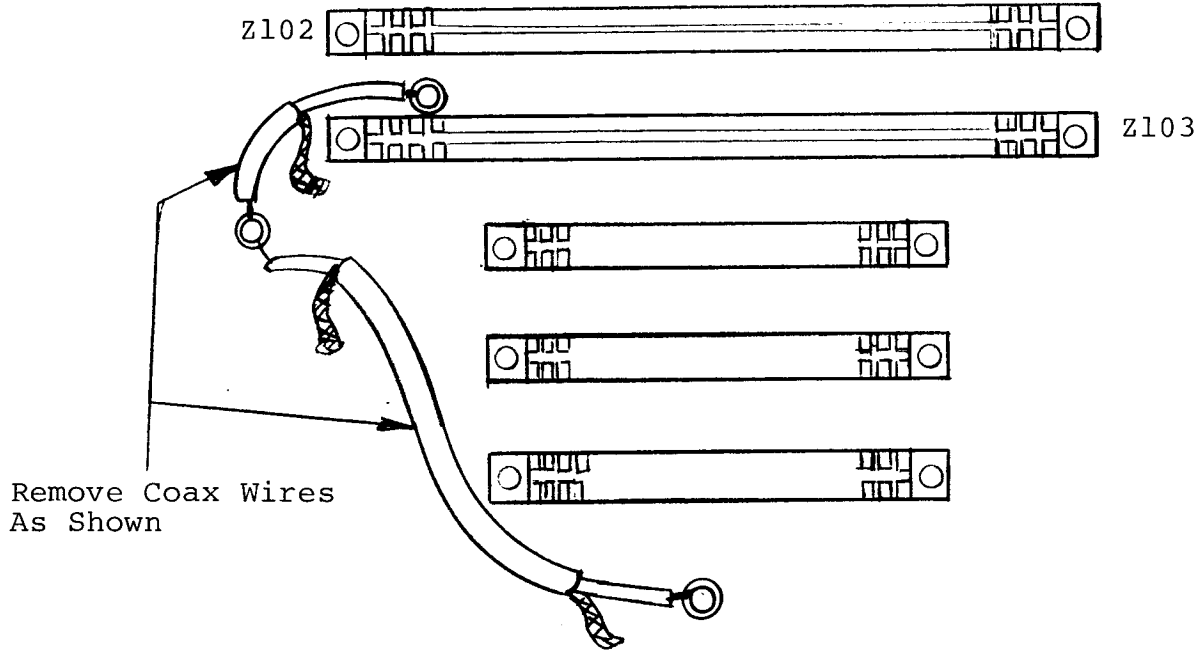

Figure 1A
2. Remove coax jumpers as shown in Figure 1A.